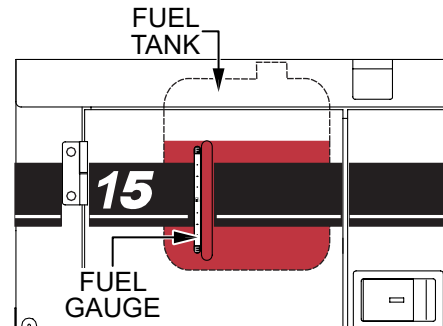

Figure 21. Full Fuel Tank
3. **NEVER overfill the fuel tank** — It is important to read the **fuel gauge** (Figure 21) when filling the fuel tank. **DO NOT** wait for fuel to rise in the filler neck.